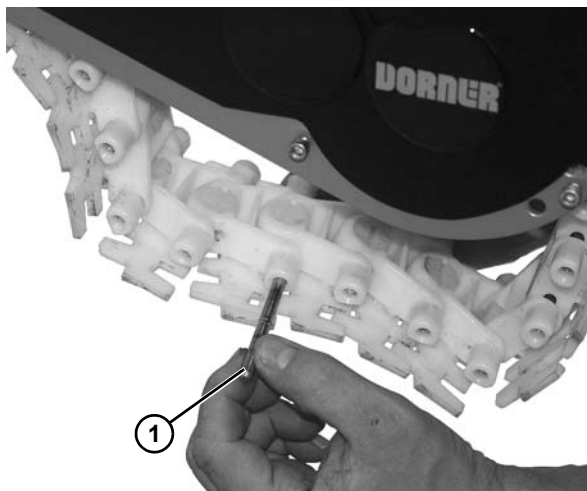

Figure 118
1. Use chain removal tool or a punch and hammer to push the chain rod (**Figure 118, item 1**) out.